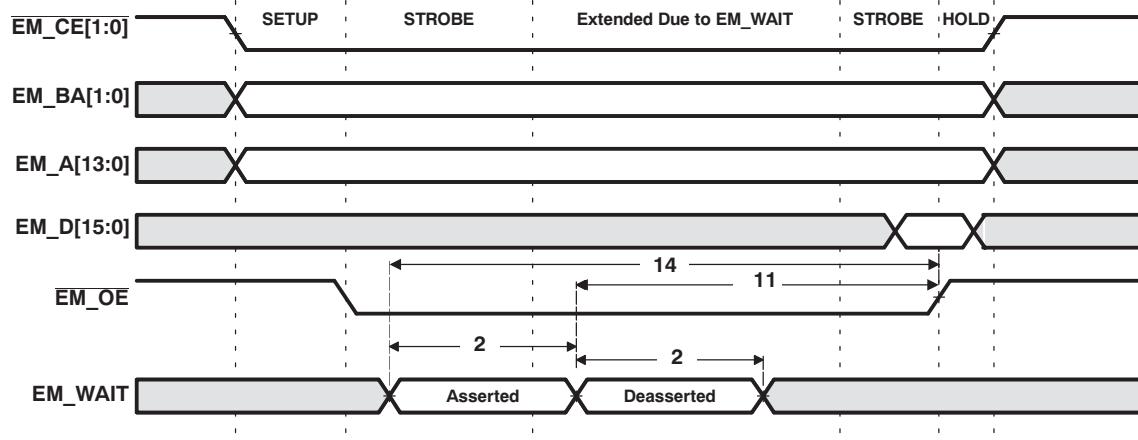
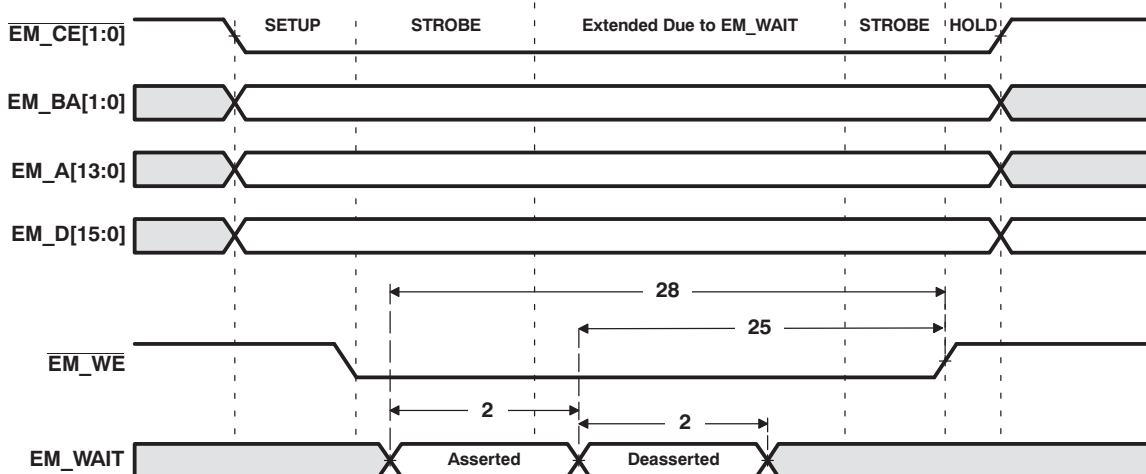

Figure 5-16. EM_WAIT Read Timing Requirements
Figure 5-17. EM_WAIT Write Timing Requirements
(1) E = PLLC1 SYCLK2 period in ns. SYCLK2 is the EMIF peripheral clock. SYCLK2 is one-fourth the PLLC output clock. For example, when PLLC output clock = 432 MHz, E = 9.259 ns. See Section 3.5 for more information.
(2) Setup before end of STROBE phase (if no extended wait states are inserted) by which EM_WAIT must be asserted to add extended wait states. Figure 5-16 and Figure 5-17 describe EMIF transactions that include extended wait states inserted during the STROBE phase. However, cycles inserted as part of this extended wait period should not be counted; the 4E requirement is to the start of where the HOLD phase would begin if there were no extended wait cycles.